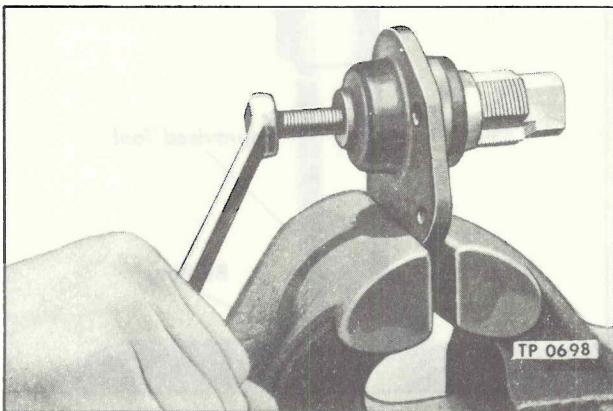

Figure 14—Removing Side Cover Bushing
1. Thread a 1-1/8" tap into the bushing the full length of bushing (fig. 14). Place cover in a press. With suitable driver or rod inserted through lash adjuster hole in cover against tap, press out bushing.